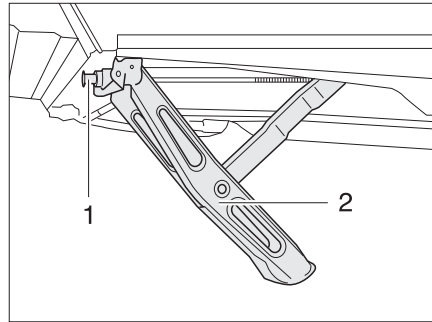

Fig. 17 Corner steady cranked down
- Place the hand crank provided as standard on the hexagonal nut (Fig. 17,1) of the corner steady (Fig. 17,2).